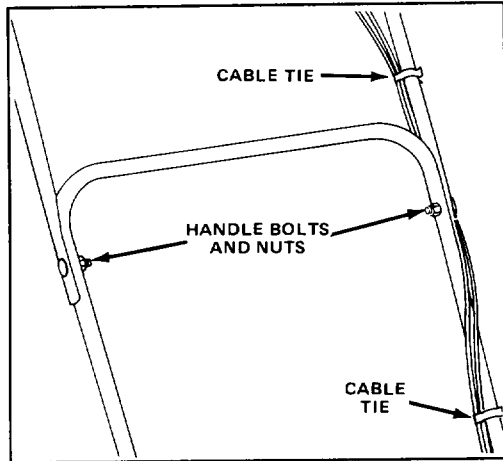

Figure 2
2. UPPER HANDLE (Fig. 2)—Secure upper and lower handle in place with handle bolts and nuts. Secure control cables in position with cable ties.